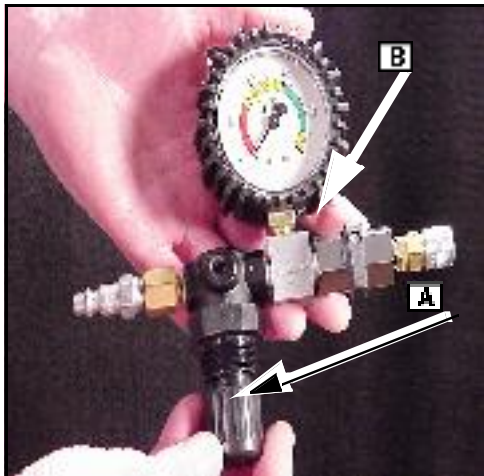

Fig. 3
- Pull out the regulator adjustment knob (A) and turn knob counterclockwise as far as it will go. Make sure air outlet valve (B) Fig. 3) is closed.